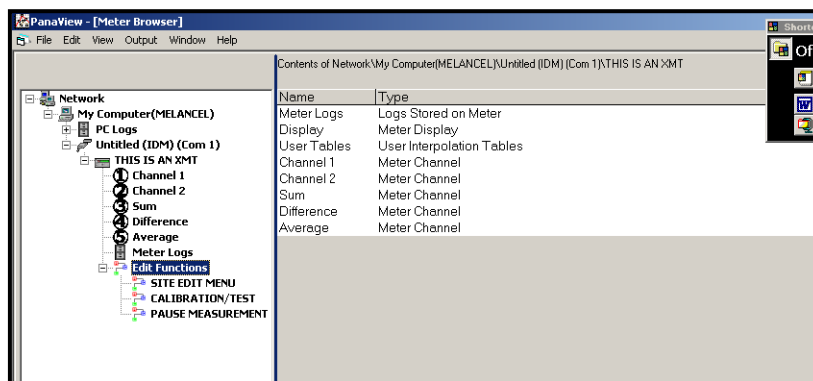

Figure 10: Menus in the *Edit Functions* Option
4. Expand the *Edit Functions* option. The window now appears similar to that shown in *Figure 10*.